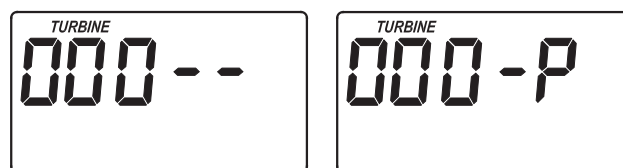

FIG. 28
1. Press and hold for 3 seconds the SELECT button, until one of the screens shown in Figure 28 is displayed. If the valve is in service, backwash or aspirate position (observe markings on the valve cam), the display should show "000 - -", meaning the position switch is open. When the valve is moving, the display should show "000 - P", meaning that the position switch is closed.